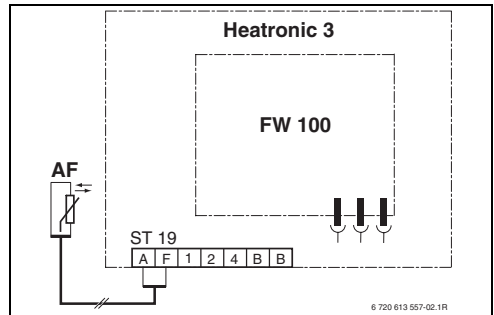

Fig. 14 Controller installed via BUS contacts in BUS-enabled Heatronic 3.
- Make the electrical connections (→ Fig. 14 or 15 on page 17).